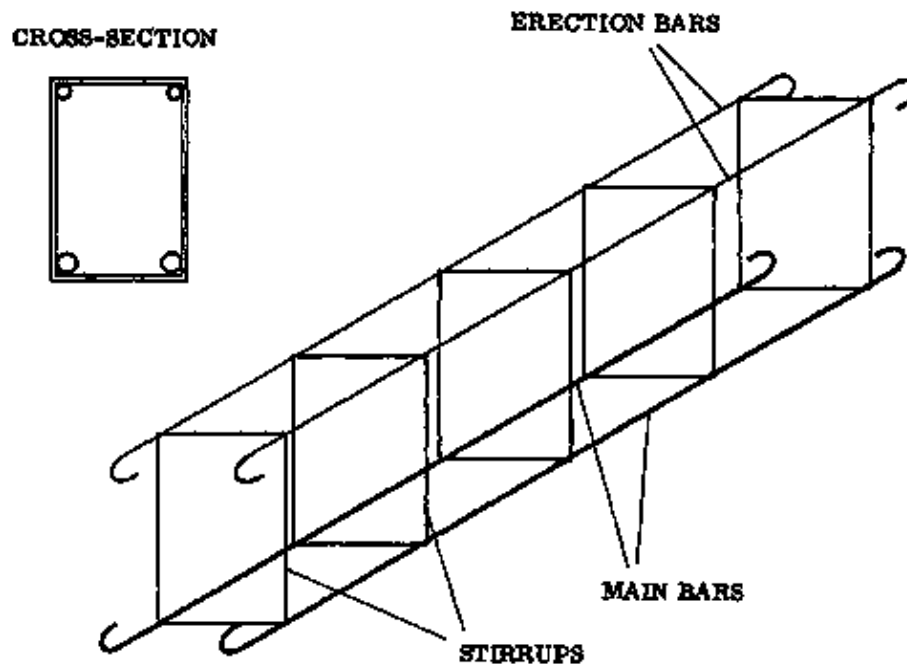

Fig. 1 REINFORCEMENT CAGE
The reinforcement for a lintel consists of several members with different diameters, shapes and functions. The members are often assembled beforehand in the form of so-called cages (see Fig. 1).
– REINFORCEMENT CAGE: A typical reinforcement cage is shown in Fig. 1. The lower bars are the main bars. They are normally 12 mm in diameter because they do the actual strengthening of the lintel. The upper bars are thinner and are called erection bars. Since their main function is to hold the cage together, their diameter is only 6 mm. The square-shaped pieces are called the stirrups. They hold the main bars and the erection bars in position. All the different members are bound together with binding wire.